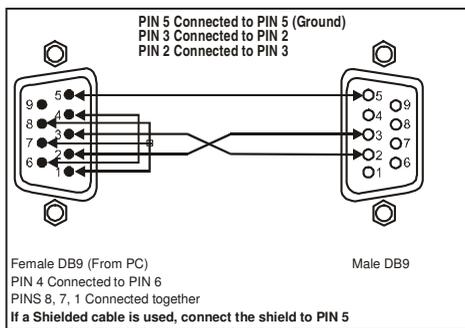

Figure 10: Connecting a PC without using a Null-modem Adapter
- Connect the RS-232 9-pin D-sub port on your PC to the RS-232 9-pin D-sub rear panel port on the **VP-88ETH** unit, as Figure 10 illustrates2